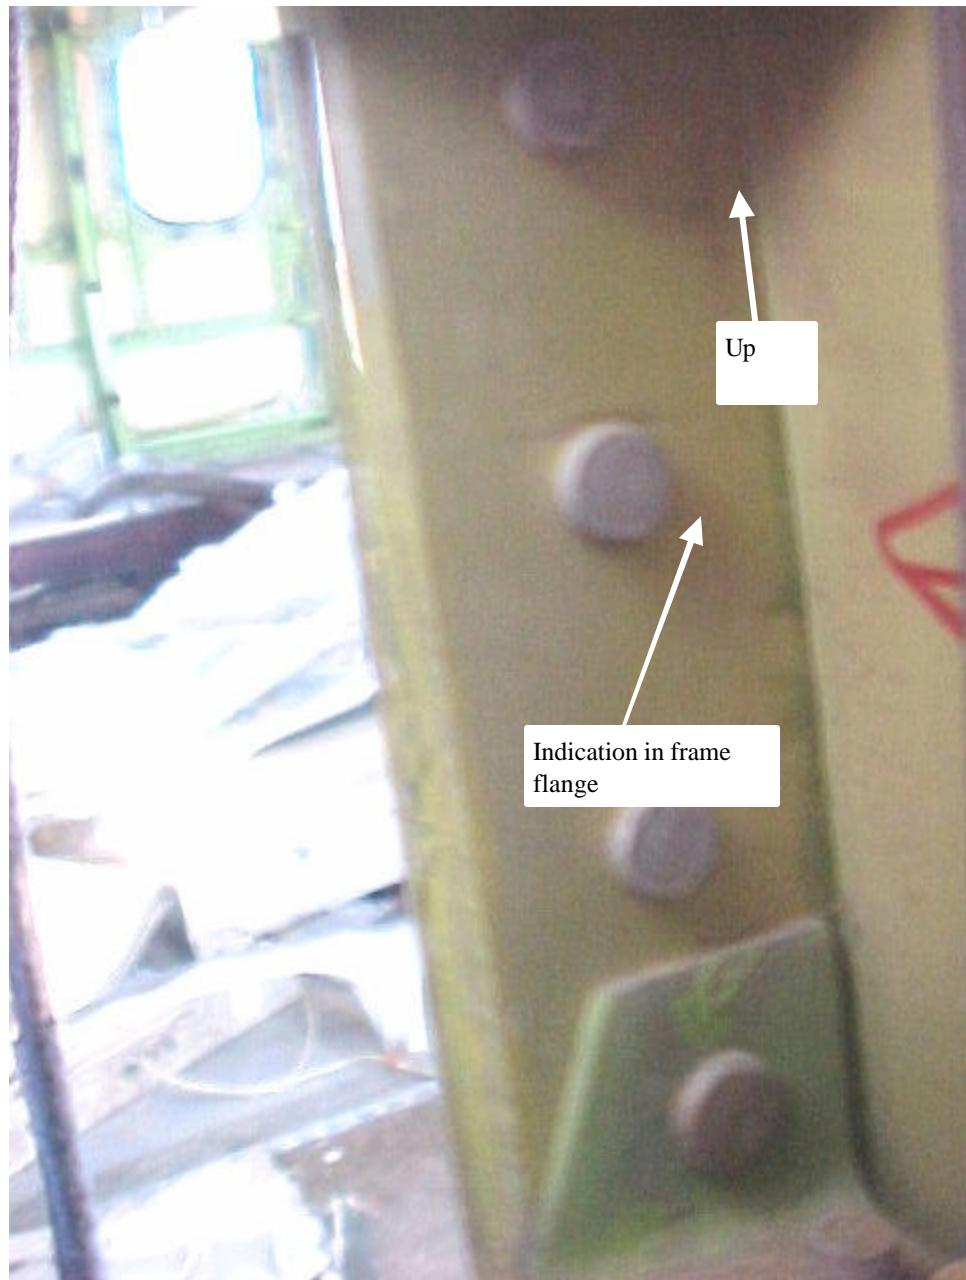

Figure F-3. Photograph documenting an indication on the reverse side of frame flange at FS 848.95 (aft side of aft door).
- FIGURE F-3 Photograph documenting an indication on the reverse side of frame flange at FS 848.95 (aft side of aft door). .....F-4